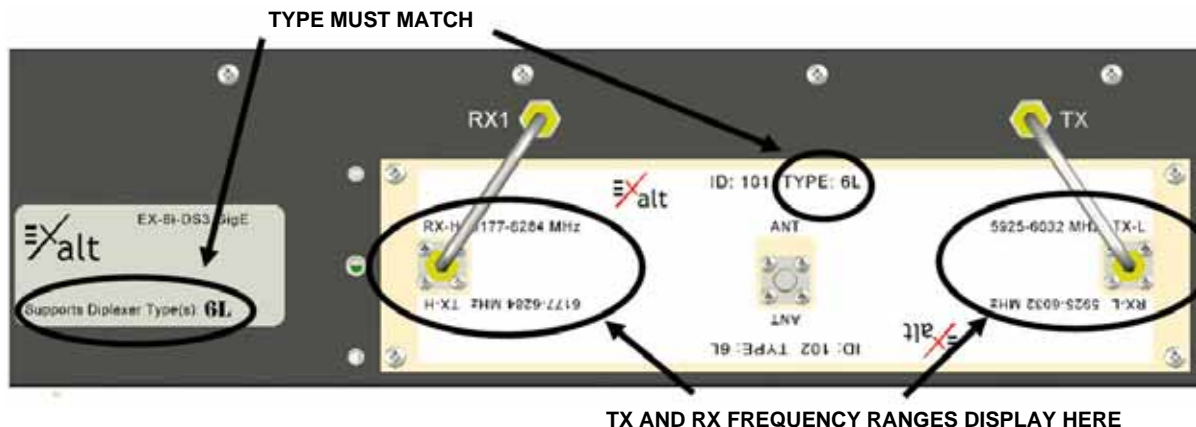
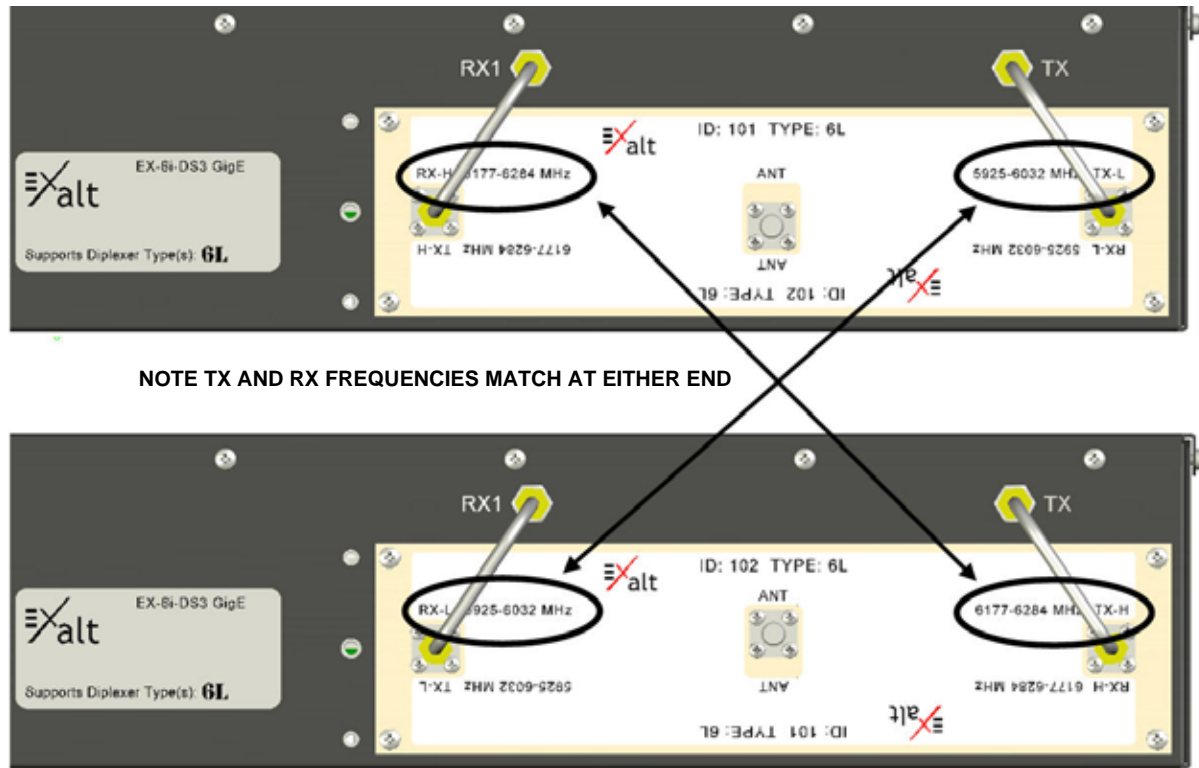

Figure 12 Diplexer labeling
Figure 13 Diplexer orientation for a typical 'link' of radios
Each diplexer can cover a range of center frequencies for transmit (Tx) and receive (Rx), and the ports on the diplexers are labeled to indicate that range, as shown in Figure 12. The diplexer can be oriented in one of two ways, and the right-side-up horizontal text on the diplexer indicates the configuration, as oriented. The designations on the diplexer are labeled TX-H (Transmitter High) or TX-L (Transmitter Low) to indicate if the transmitter frequency range is higher or lower than the receive frequency range. Likewise, the receive frequency ranges are labeled as RX-H and RX-L.
In most configurations, the diplexers used for two ends of a link are the same diplexer, but mounted in opposite physical orientation (rotated 180 degrees relative to one another), as shown in Figure 13.
Note in Figure 13, that this is the same diplexer for both radios, but they are mounted upside down relative to one another. It is a logical arrangement because one radio is configured to transmit across the same range of frequency that the opposite radio is configured to receive and vice-versa.
- 2 Two semi-rigid coaxial cables are provided with each diplexer. These must be connected to the TX and RX1 rear-panel ports of the radio, as shown in Figure 12 and Figure 13.